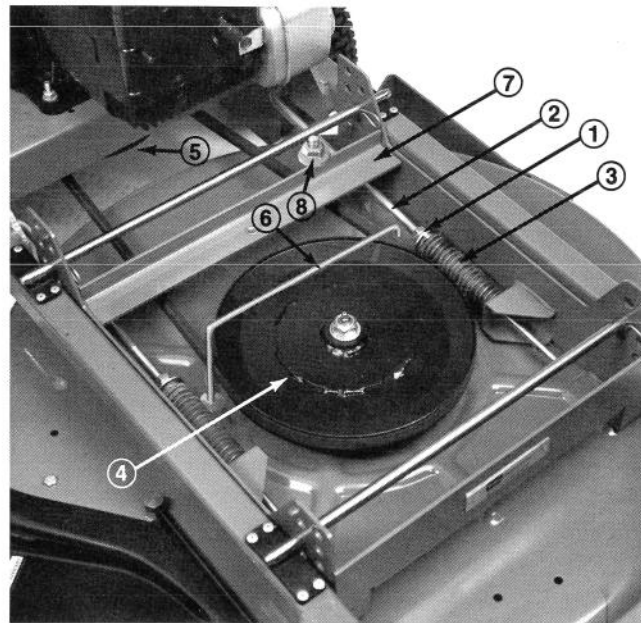

Figure 4A
2. Loosen jam nuts, springs and spacers on adjusting rods (Fig. 4A), allowing deck to be moved rearward for belt installation.
3. Remove (2) locknuts securing belt guide (over pulley) to mower housing (Fig. 4A). Remove belt guide.
4. Route belt around deck drive pulley and engine clutch pulley (Fig. 4A). Make sure belt is positioned inside C-shaped guides at rear of mower housing.